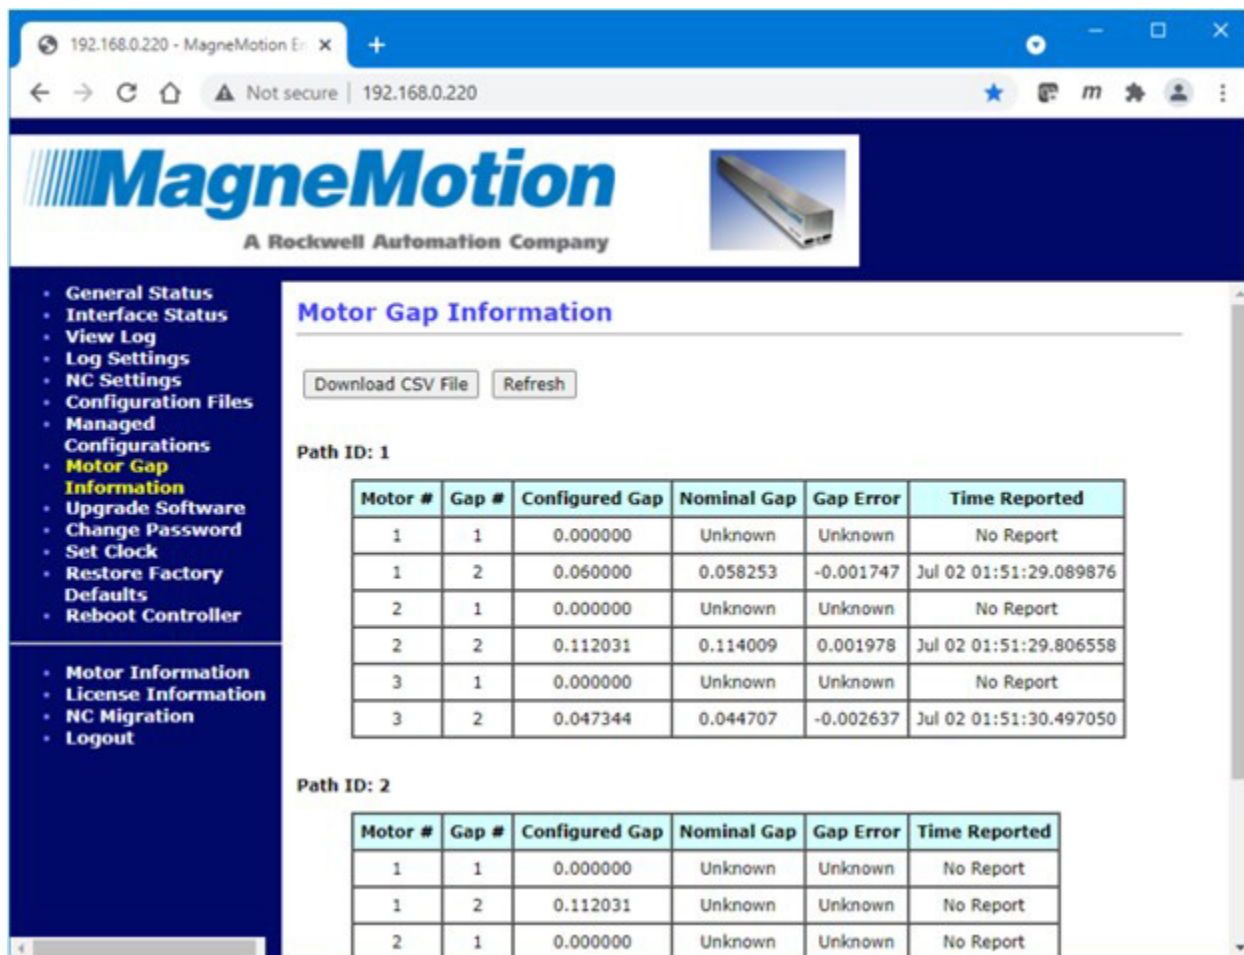

Figure 4-111: Node Controller Web Interface - Motor Gap Information Page
3. See **Motor Gap** Information in the *MagneMotion Node Controller Interface User Manual*, publication MMI-UM001 to obtain the detected **Gap Errors**. The **Motor Gap Information** page is shown in Figure 4-111.